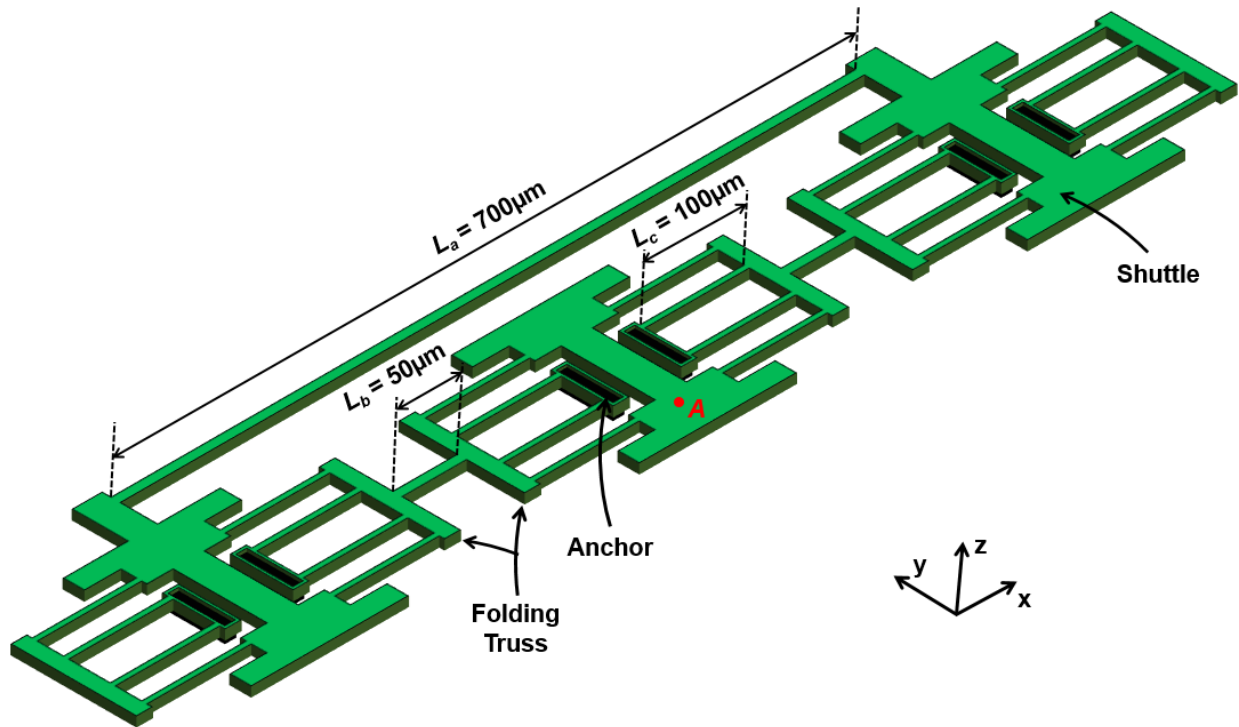

Fig. PS4.4
3. Fig. PS4.4 below presents a micromechanical structure constructed in a $2\mu\text{m}$ -thick structural layer. Here, everything is suspended $2\mu\text{m}$ above the substrate except for the anchoring locations indicated as the darkly shaded regions. Data on the structural material used in this problem is given in Table PS4.1. Assume that all folding trusses and shuttles are rigid in all directions, including the vertical, z direction. Also, assume that all suspension and coupling beam widths are $2\mu\text{m}$.